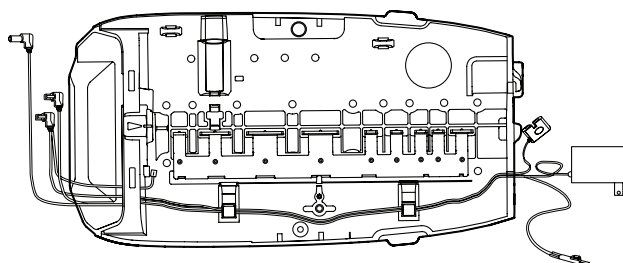

Figure 38
6. Slide (Item 4) Camshaft back until gear contacts back of top plate, then allow tension to disengage and free cam. See Figure 38.
9. Route all cabling through both clips on the top plate (Figure 38).